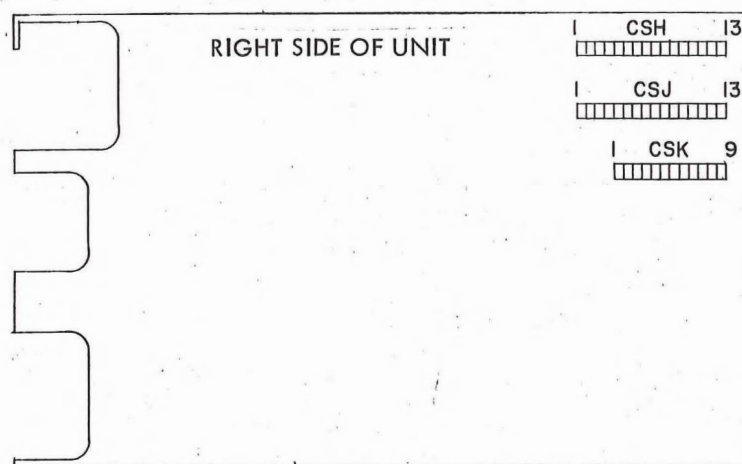

Fig. 1
- ( ) Dress the other end of this wire through the grommet, across the chassis, and solder it to CSH-13 (see Fig. 1).